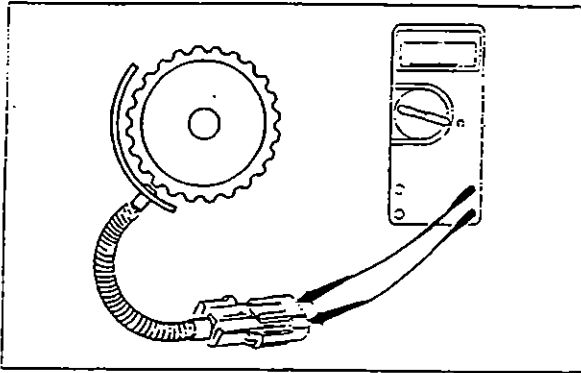

Fig. 1.1.40
**Correction:** Disconnect Weather Pack connector from Jacobs control module. Measure the resistance between the two wires from the tach sender (Fig. 1.1.40). An acceptable reading will be from 50 to 300 ohms. The Motorola 7EP2033 or Volvo/White 13603-0013 will read between 245-255 ohms. Readings outside this range indicate a short circuit or broken wires.